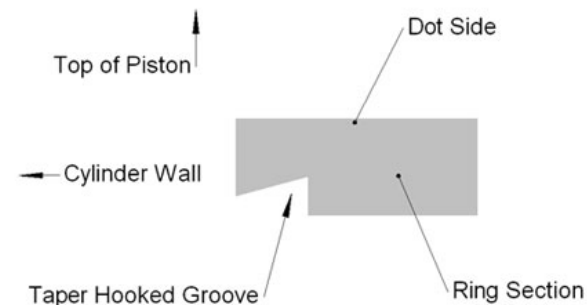

Figure 4
2. If the ring is a taper hook groove style, the groove always goes down. (Figure 4)